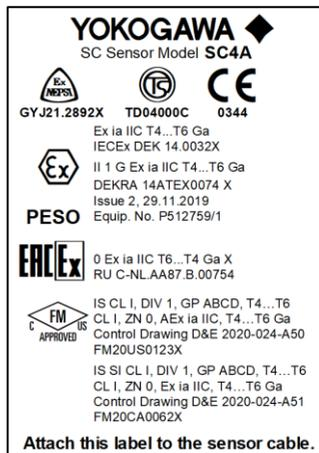

Fig. 4 Product label
4. If product is too small to fit a label with necessary text, this text will be on a Metallized Polyester label placed on a plastic carrier for affixing adjacent to the product. See fig. 4 for additional sensor and certification information